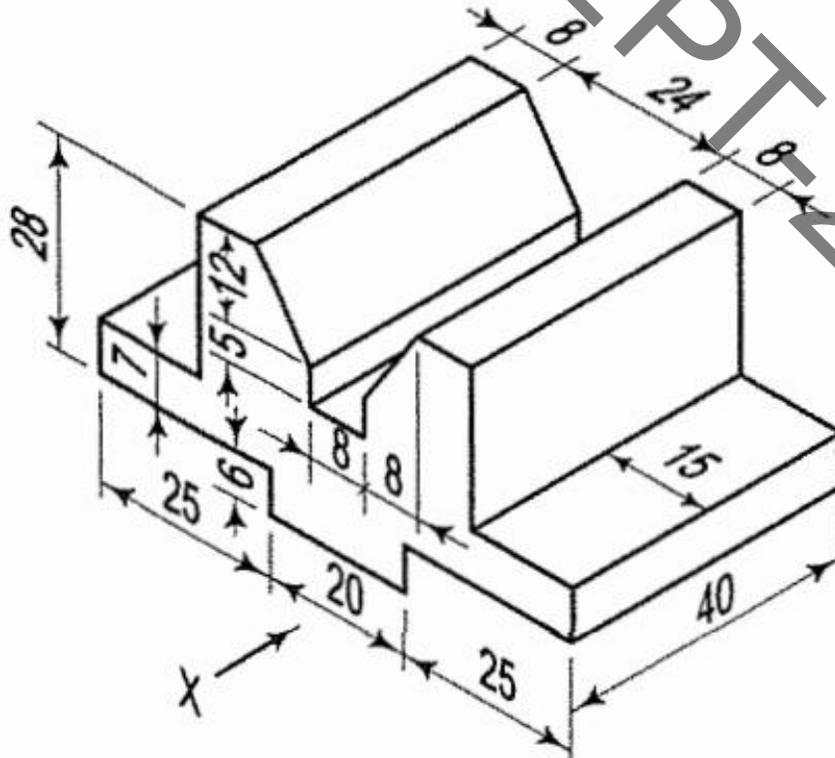

Figure: 2
6. Draw the orthographic projections of the machine part shown in figure 2. a) Front view b) Top view c) Side view. All dimensions are in mm. [25]